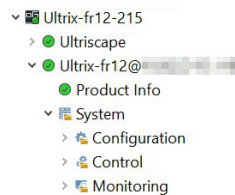

Figure 3 Example of the ULTRIX-FR12 Tree View
**Figure 3** illustrates an ULTRIX-FR12 tree in the Basic Tree View.